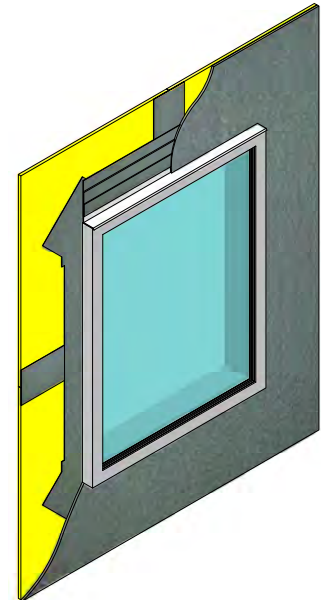

Figure 17
13. Apply SENERSHIELD-R or SENERSHIELD-VB per the product bulletin instructions over the substrate. (See Figure 17)